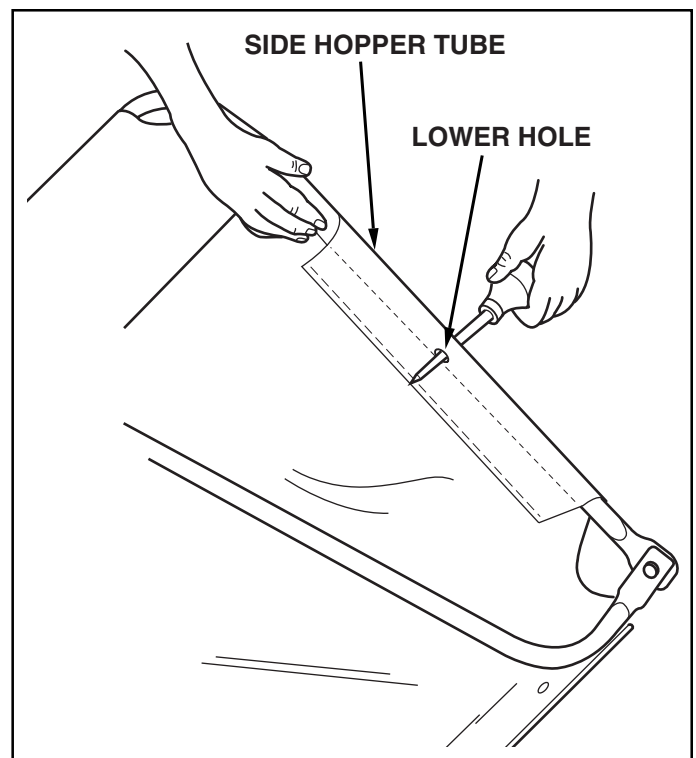

FIGURE 15
- Locate the **lower** hole in each side hopper tube. Pierce a hole through the hopper bag aligned with the lower hole in each side tube. See figure 15.